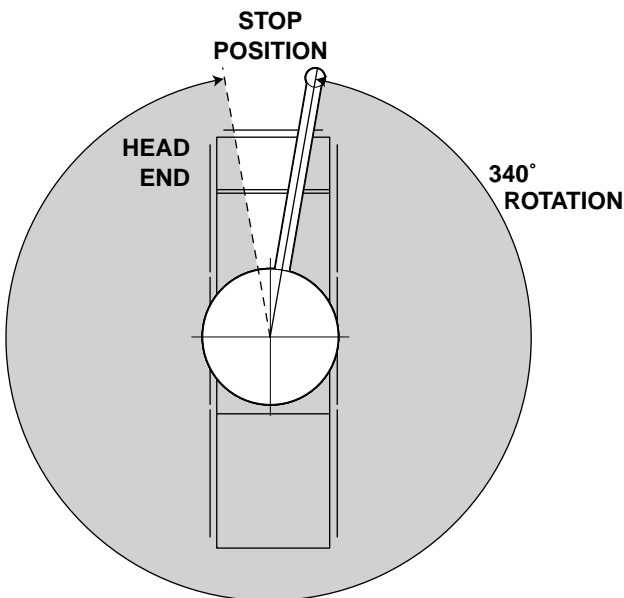

Figure 15.
a. Determine the degree of stop rotation and the location for the stops based on the room layout. The recommended stop location is over the head end of the table, this will allow the most flexibility for positioning the monitor. Refer to figure 15.